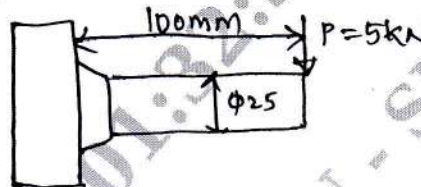

Fig.Q8(b)
- b. A solid circular shaft 25mm in diameter is welded to a support by means of a fillet weld as shown in Fig.Q8(b). Determine the Leg dimensions of the weld, if the permissible shear stress is  $95 \text{ N/mm}^2$ .